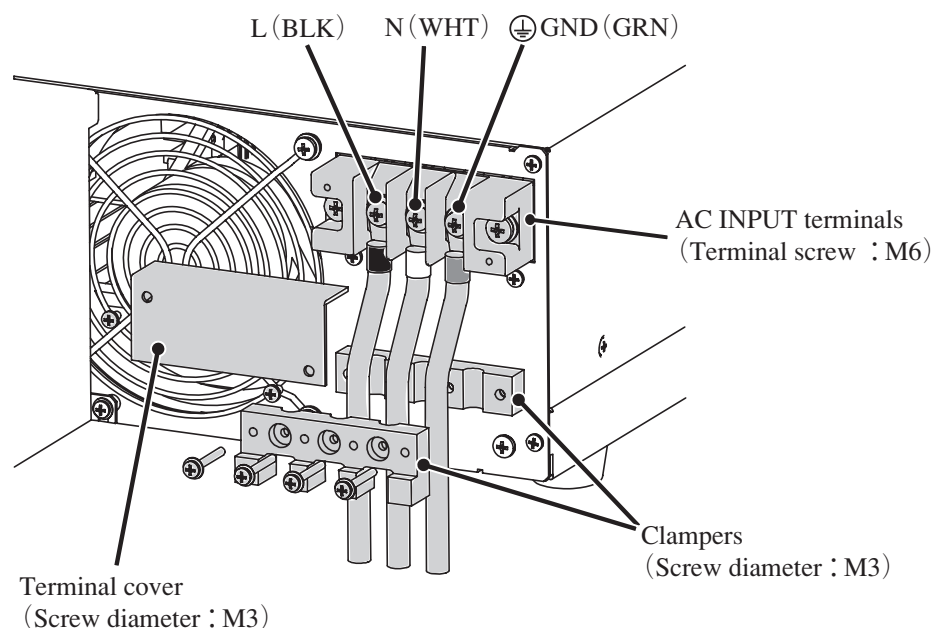

Fig. 1-10 Connecting the AC power cord (PAM series 2 kW model)
2. Connect the supplied AC power cord to the AC input terminal board as shown in Fig. 1-10.